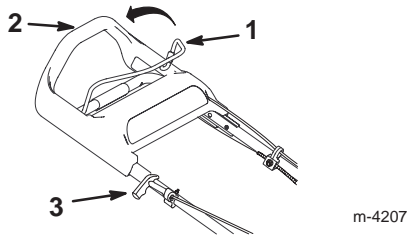

Figure 10
3. Hold the blade control bail against the upper handle (Fig. 10).